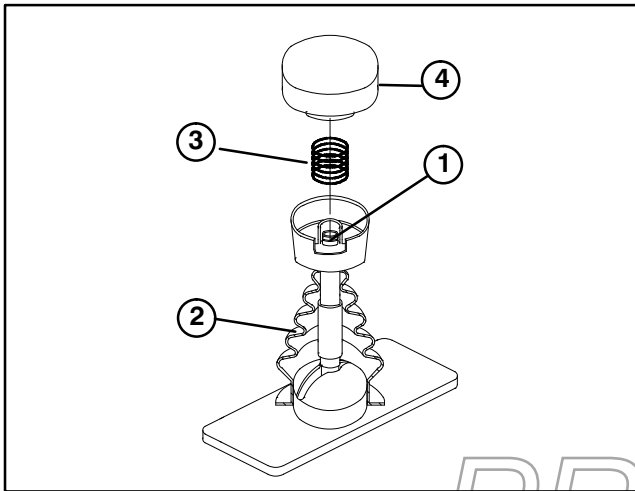

Figure 5
3. Insert new boot and sleeve assembly onto lift control shaft (Fig. 5).
4. Place spring into cup on sleeve and thread cap onto shaft, compressing spring and locking lift control (Fig. 5).